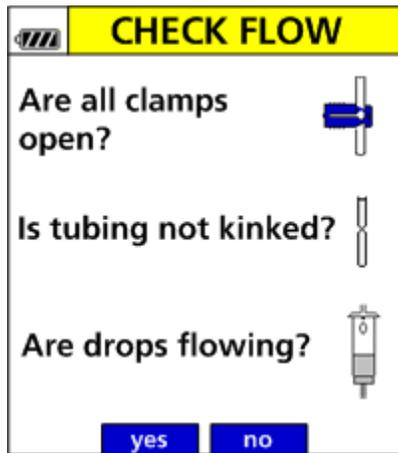

Figure 13. Check Flow at Run.
- The screen (See Figure 13.) prompts the clinician at the start of the infusion to ensure that there are no closed clamps or kinks in the tubing that might prevent flow.